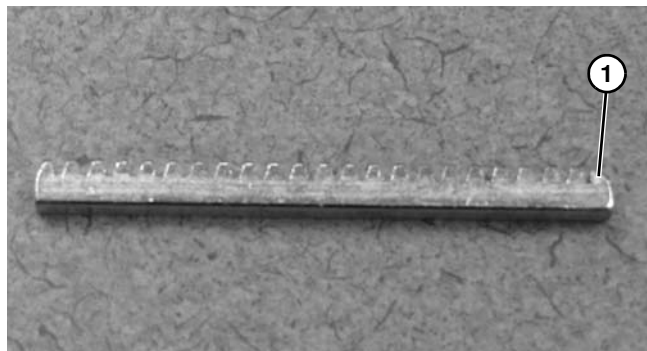

Figure 150
Make sure the bent end (**Figure 150, item 1**) of the gear rack is NOT assembled into the conveyor frame.